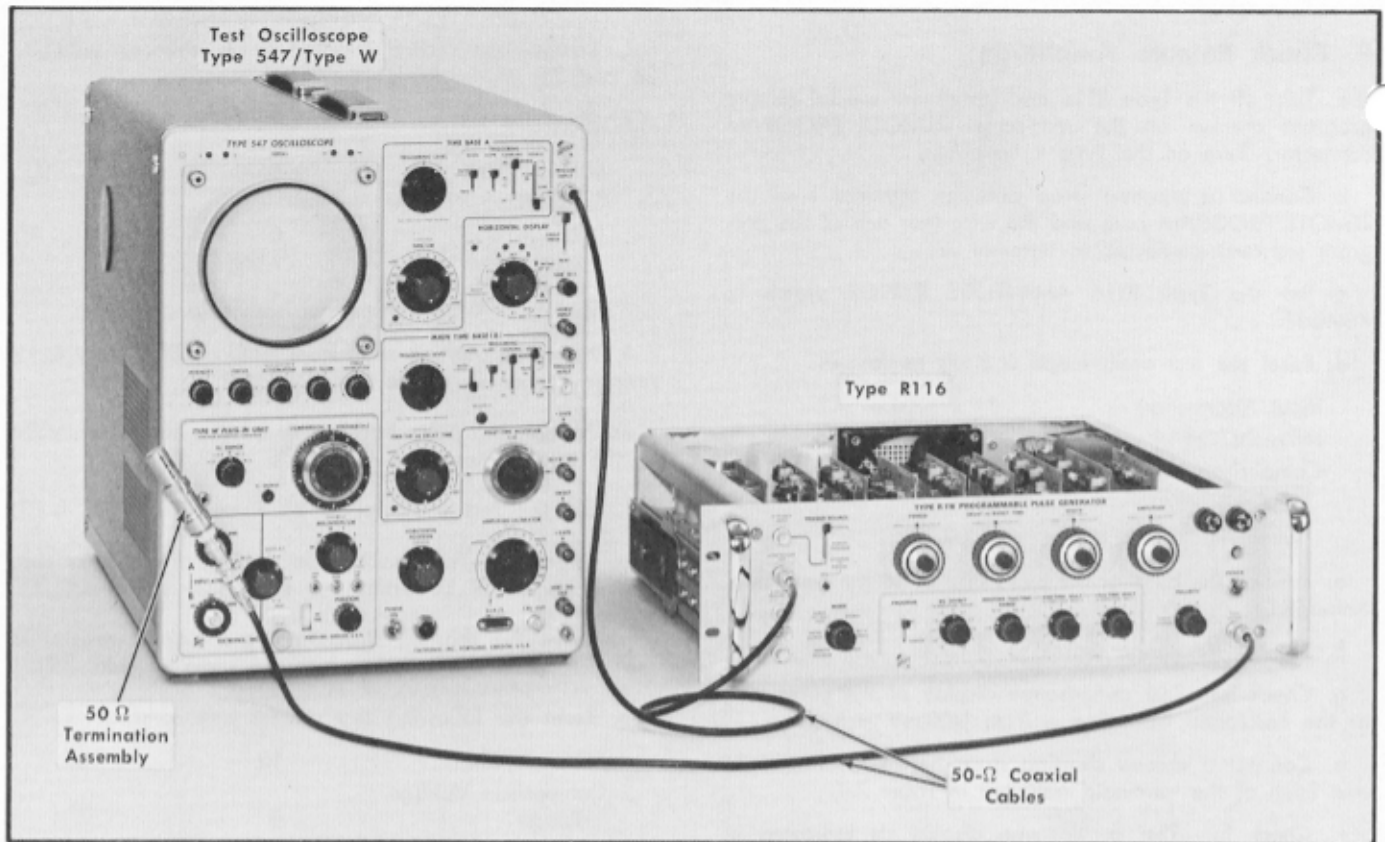

Fig. 7-14. Initial test equipment setup for calibration steps 10 through 12.
- a. Test equipment setup is shown in Fig. 7-14.